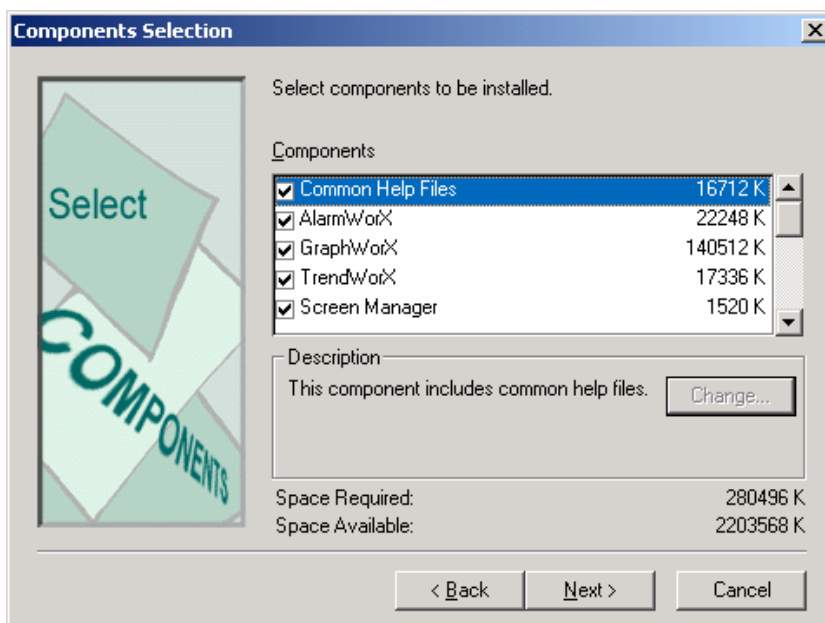

Figure 2.6. Selecting ProcessView Components
10. The **Component** dialog box appears, as shown in **Figure 2.6**. By default, the components and subcomponents installed by ProcessView require at least 300 MB of disk space. If you lack the space, a message appears asking you either to change hard drives or delete unnecessary files from your current drive.